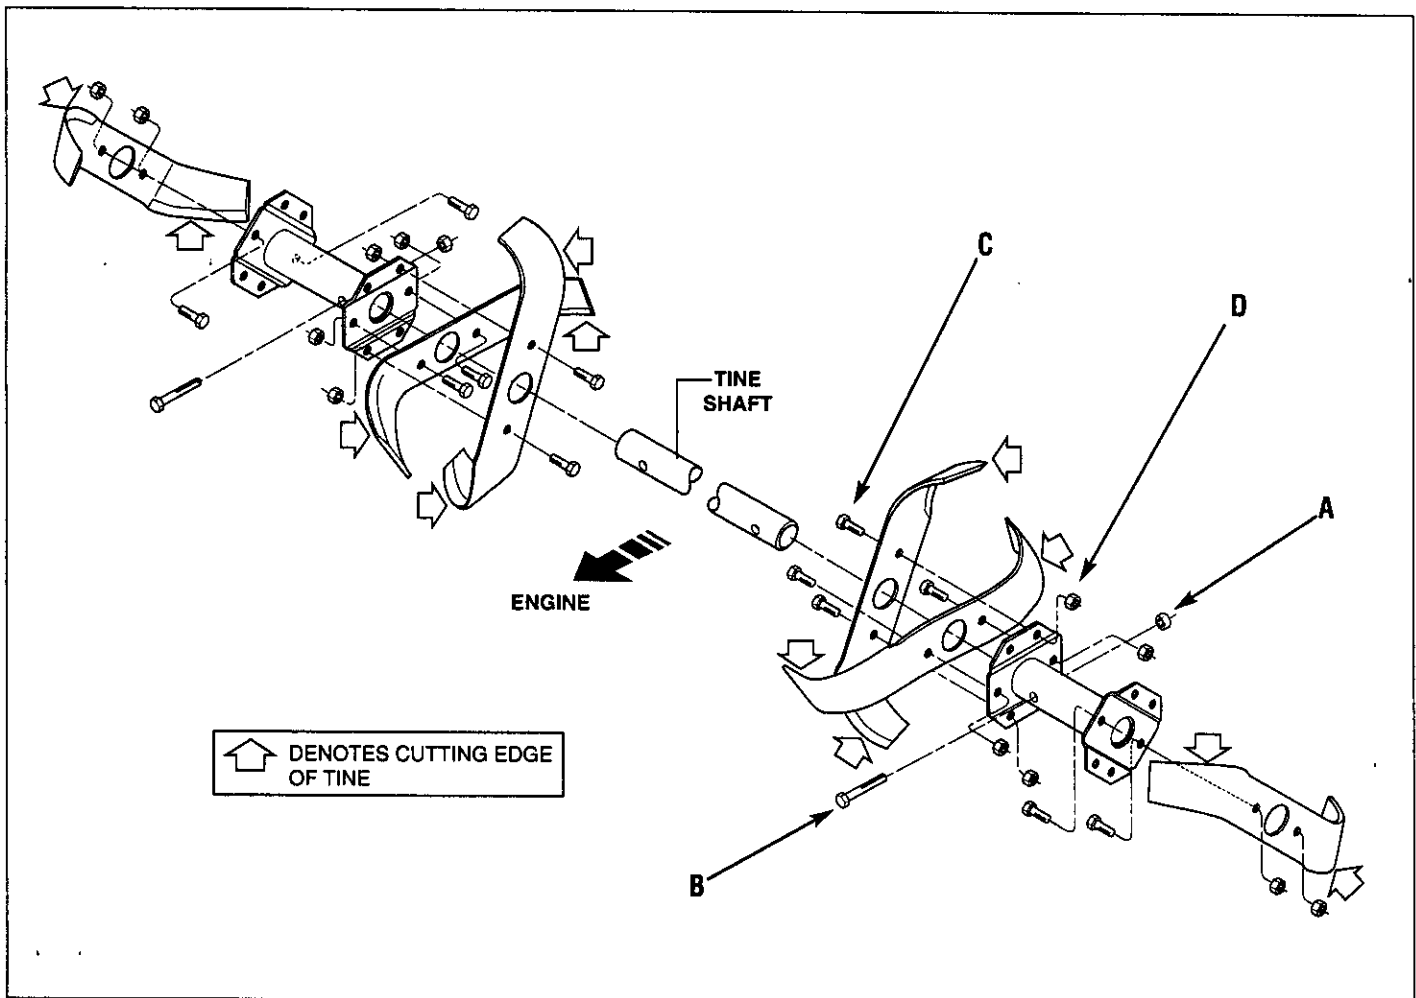

Figure 4-9: Complete tine assemblies: tine holders, all tines and hardware.
1. Use a 9/16" socket, 6" extension, a ratchet, and a 9/16" box wrench to loosen the nut (A, Figure 4-9) and bolt (B) that secure the tine holder to the tine shaft.
1. Use two 9/16" box end wrenches to remove the two bolts (C, Figure 4-9), and nuts (D) that secure the tine to its tine holder. See Figure 4-9.
This is a CRT (counter-rotating tine) tiller and its tines must be mounted in the direction shown in Figure 4-9. If mounted with curves in the opposite direction, tiller will dig poorly and be more likely to run backwards.